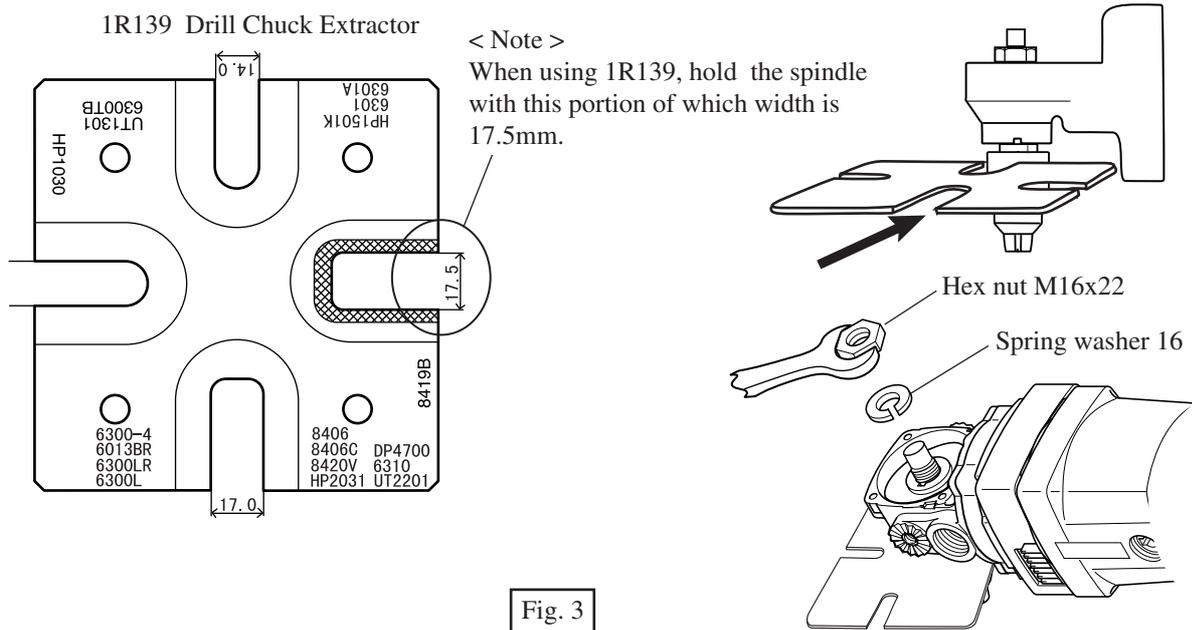
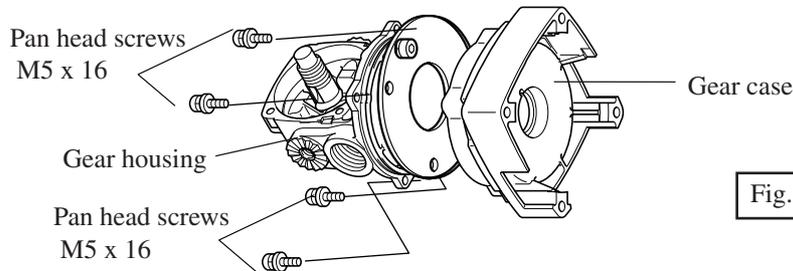

Fig. 3
Fig. 10
(3) Insert No. 1R139 " Drill Chuck Extractor into the space between drill chuck and bearing retainer to hold spindle, And unscrew hex nut M16x22. So, spring washer 16 can be disassembled from spindle. See Fig. 3.
- (1) After taking off spur gear 40 as illustrated in Fig. 3 and Fig. 4, unscrew 4 pcs. of pan head screws M5 x 16 and separate gear case from gear housing as illustrated in Fig. 10.
(1) After taking off spur gear 40 as illustrated in Fig. 3 and Fig. 4, unscrew 4 pcs. of pan head screws M5 x 16 and separate gear case from gear housing as illustrated in Fig. 13.